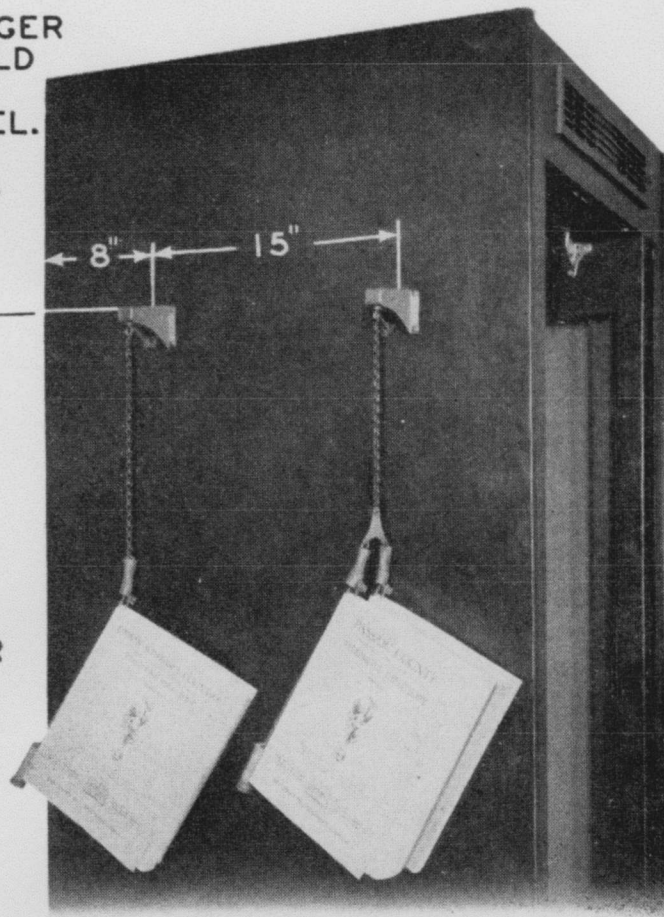

Fig. 4—Directory Hangers on Booths
3.03 **Directory Hangers:** On indoor installations the directory hanger should not be installed inside the booth. When the hanger is installed on the wall it should be located as near the telephone as practicable. Where secure mounting on wall surfaces cannot be obtained, use a 164A backboard for the KS-13350 directory hanger and a suitable backboard prepared locally for the KS-7302 directory hanger. Fig. 4 shows typical installations of directory hangers on booths.